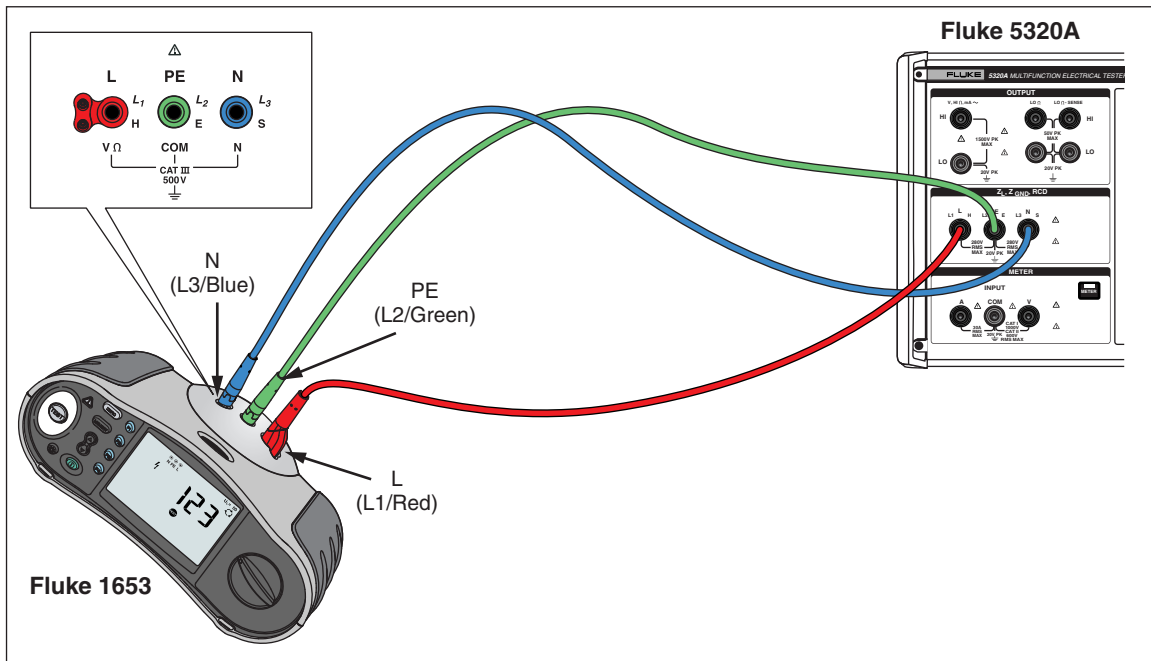

Figure 7-12. Line and Loop Impedance Calibration on a Fluke 1653
2. Using Figure 7-12, connect the UUT to the L, PE and N terminals of the Calibrator. For some line impedance testers, PE does not need to be connected.
2. Using Figure 7-12, connect the UUT to the L, PE, and N terminals of the Calibrator.